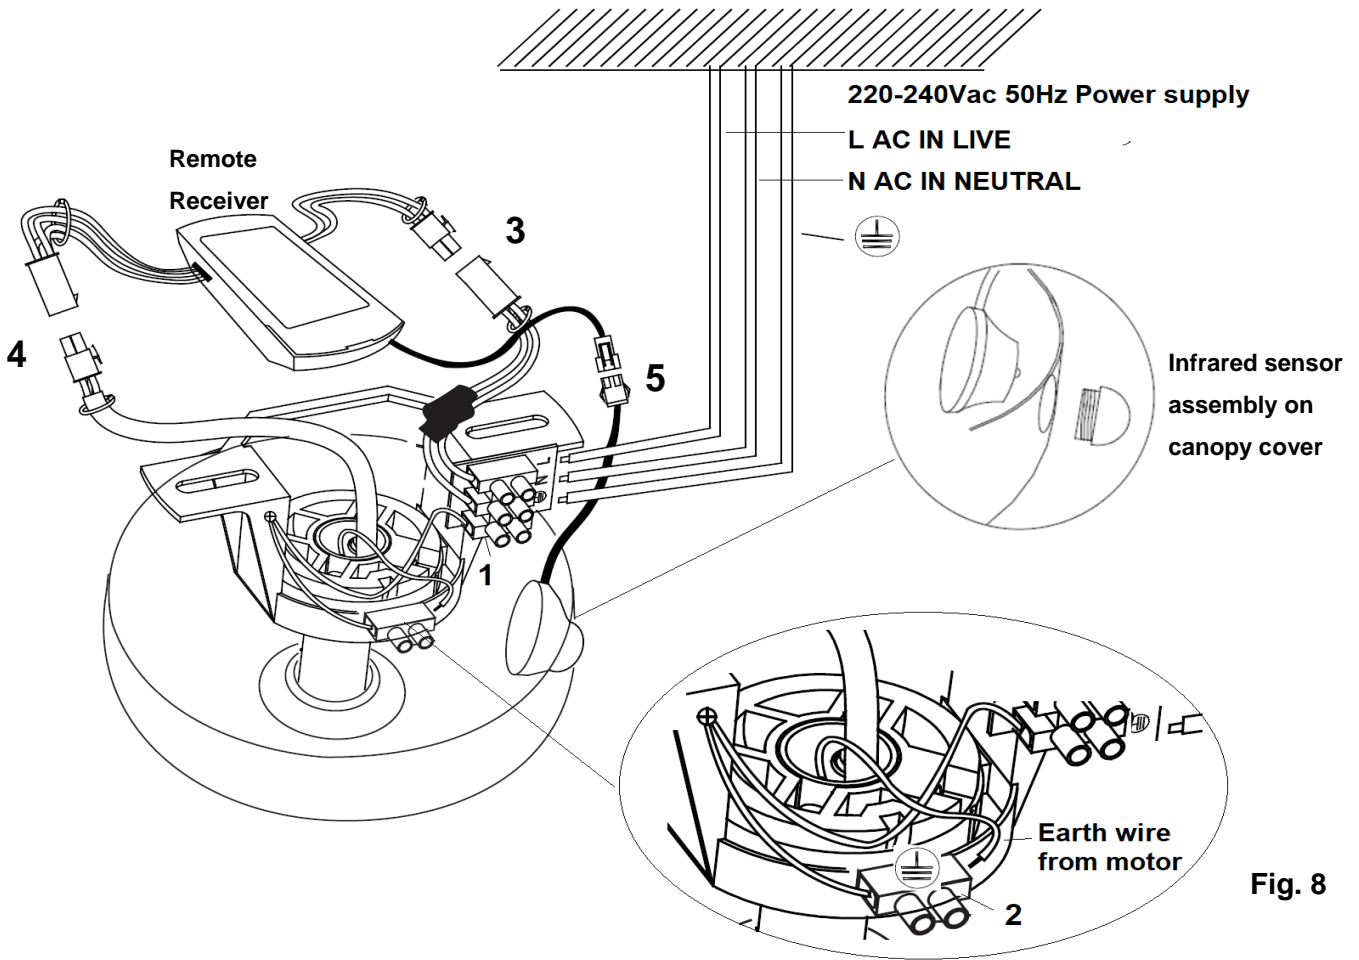

Fig. 8
Refer to Fig. 8 and following the wiring instruction below:
- Connect “LIVE” supply wire to the “L” of terminal block (1) on the mounting bracket. (Fig. 8)
- Connect “NEUTRAL” supply wire to the “N” of terminal block (1) on the mounting bracket. (Fig.8)
- Connect ground “EARTH” wire to the “⊕” of terminal block (1) on the mounting bracket. (Fig. 8)
- Connect motor “EARTH” wire from motor to the “⊕” of Earth terminal block (2) of the mounting bracket. (Fig. 8)
- Connect the output quick connector (4) from the receiver to the quick connector (4) from the fan body. (Fig. 8)
- Connect the quick connector (3) from the fan mounting bracket to the input quick connector (3) from the receiver.
- Connect the connector (5) from the infrared detector to the input connector (5) from Remote receiver.